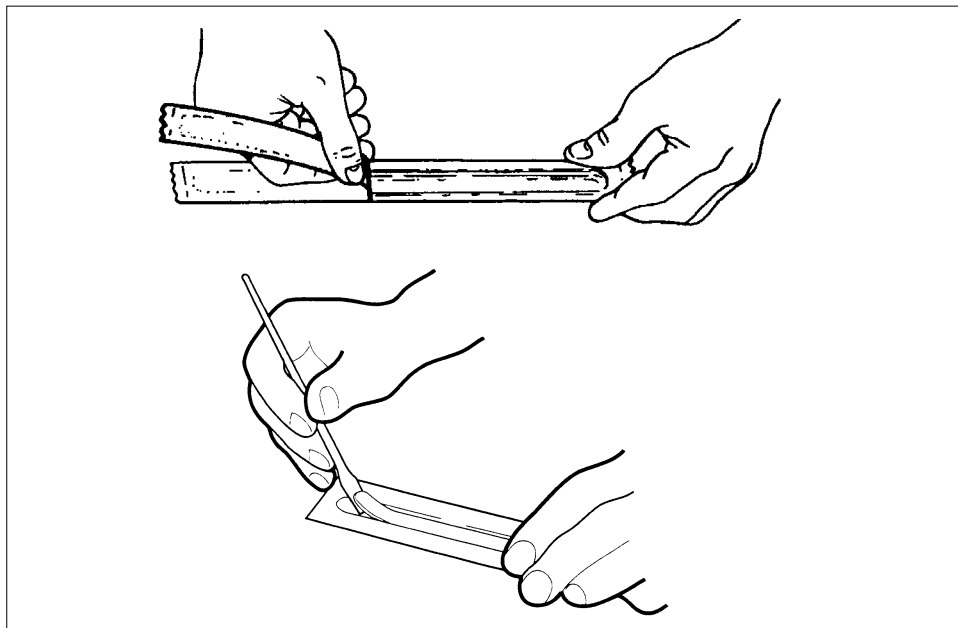

Fig. 26.
- Peel back the foil on the Anodic (+) SDS Buffer Strip (Fig. 26). Vinyl gloves tend to stick less to the buffer strips than other types of plastic gloves. If you find your gloved fingers stick to the buffer strips, wet your fingers lightly with distilled water or a 5-10% SDS solution.